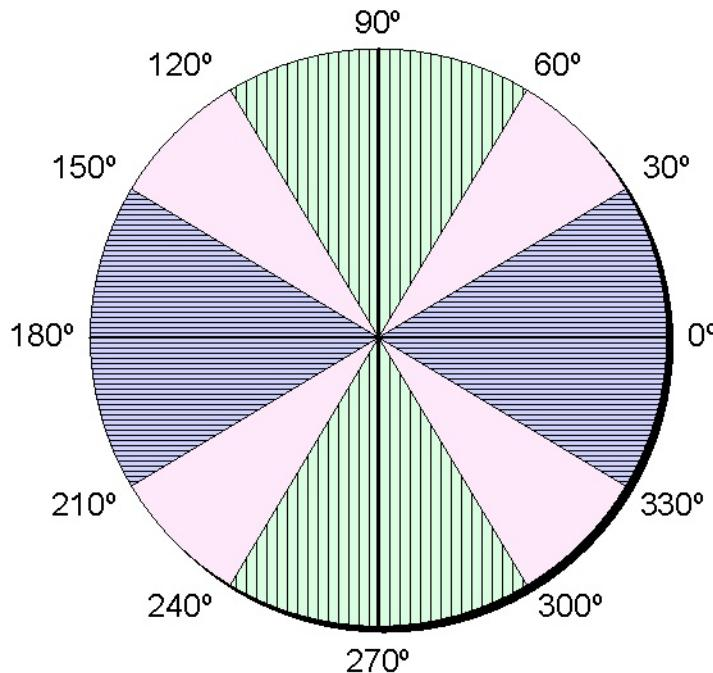

Figure 20-5. Categorizing (and routing) nets as horizontally-biased, vertically-biased, and "in-between".
- Take a board with six or more signal layers and route vertically-biased tracks (green) on some layers, horizontally-biased tracks (blue) on other layers, and the tracks that are neither horizontally-biased or vertically-biased (mauve) on yet other layers as illustrated in Figure 20-5.